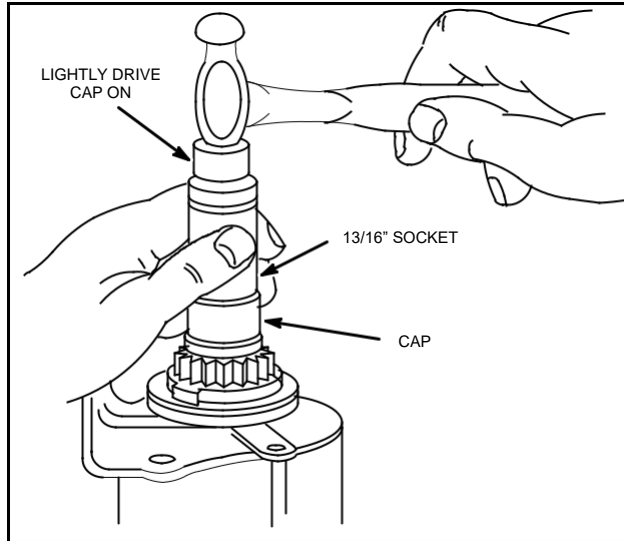

Fig. 695 – INSTALLING PLASTIC CAP
- To install plastic cap, use a socket approximately the same diameter as the plastic cap, for a driver as shown in Fig. 695.